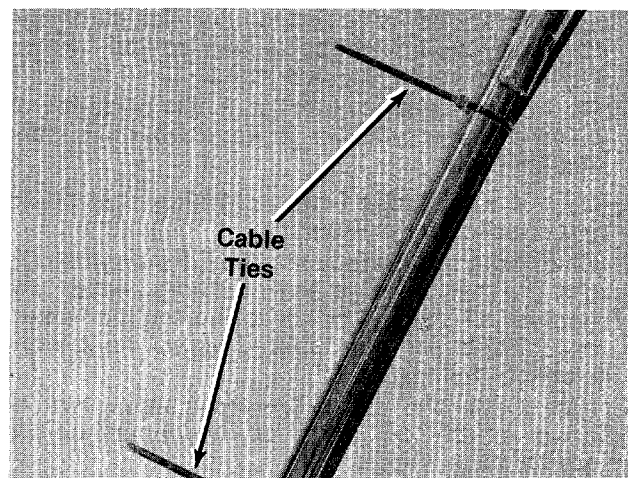

FIGURE 3
6. Secure the throttle control wire to the lower handle with the cable ties. (See figure 3.)